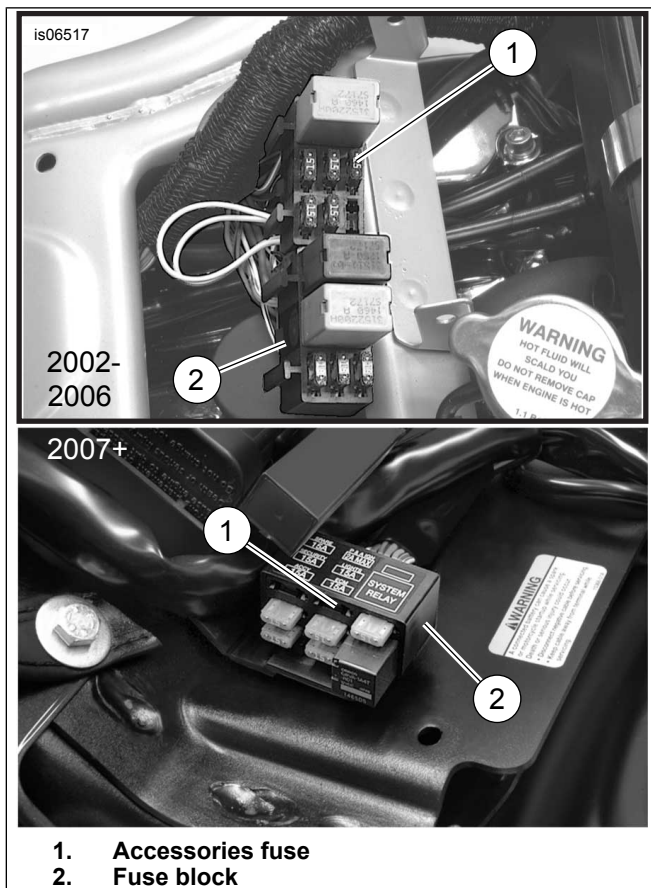

Figure 16. Accessory Fuse Locations (V-Rod Models)
1. See Figure 16. Carefully slice open an area of the main harness wrap near the fuse block (2) at an accessible point, and cut the orange/white main harness wire leading to the fuse cavity (1) marked: